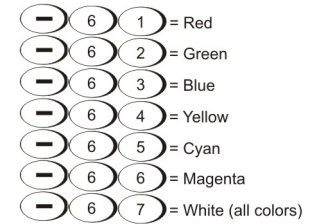

Figure 3-1 Function Key
**Within a Presentation:** Press FUNC followed by 2 numbers to enable a specific color or colors in the display (see **Figure 3-1**).